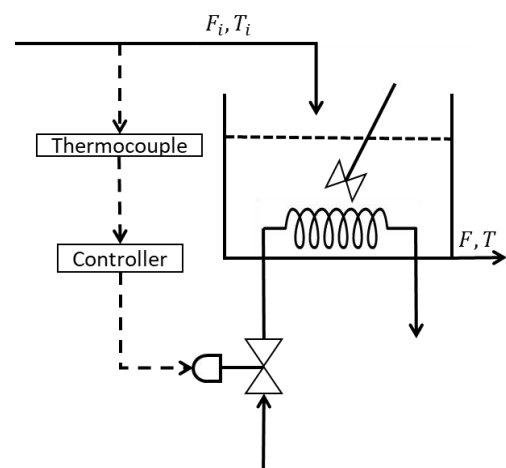

Figure Q6: Controlling temperature in a tank.
7. What type of control system has been implemented in the heating process in Figure Q6?
Figure Q6: Process flow diagram for toluene hydrodealkylation process to produce benzene. Separator is a flash distillation unit. Toluene column, benzene column and stabilizer are multistage distillation columns with condenser and reboiler.
In the process flow diagram in Figure Q6, hydrogen and toluene are converted into benzene in the vapour reactor (PFR), with methane and diphenyl as by-products. The effluent from the adiabatic reactor is quenched with liquid from the separator. The separation section comprising three multi-stage distillation columns purifies the benzene product and recovers and recycles unreacted toluene. The partial condenser in the stabilizer unit removes any remaining hydrogen and methane gas from the liquid components. The toluene column bottoms is almost pure stream of diphenyl by-product formed in the reactor.